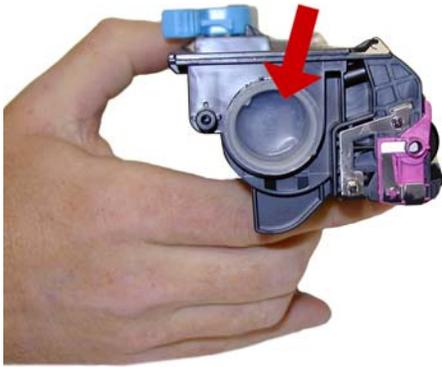

Figure 1
1) Remove the fill plug on the end of the cartridge. Dump the old toner out and discard. Vacuum the outside of the housing and the developer roller. Turn the developer roller a few times to vacuum all sides of the roller. See **Figure 1**.